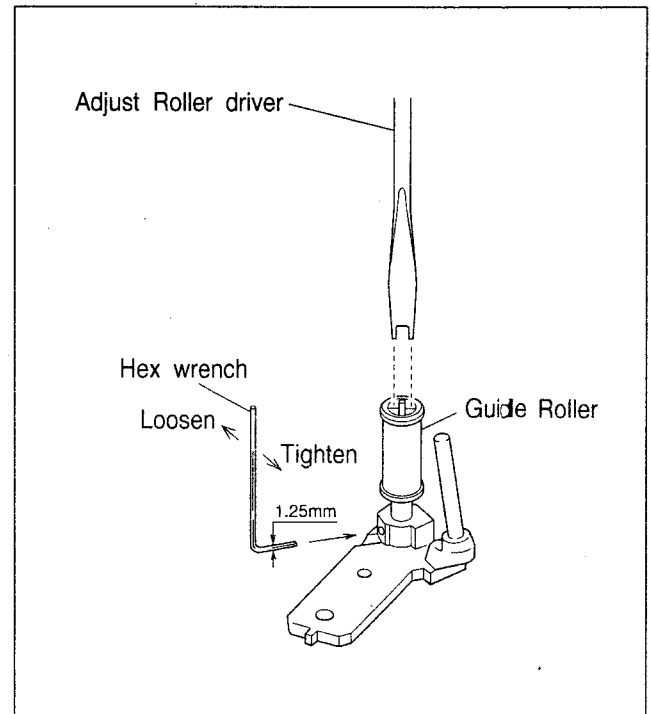

Fig. 2-8-2
- (5) Using a hexagonal wrench, gently loosen the set screw at the bottom of the pole base assembly. (Be careful not to loosen it too much.) (Fig. 2-8-2)